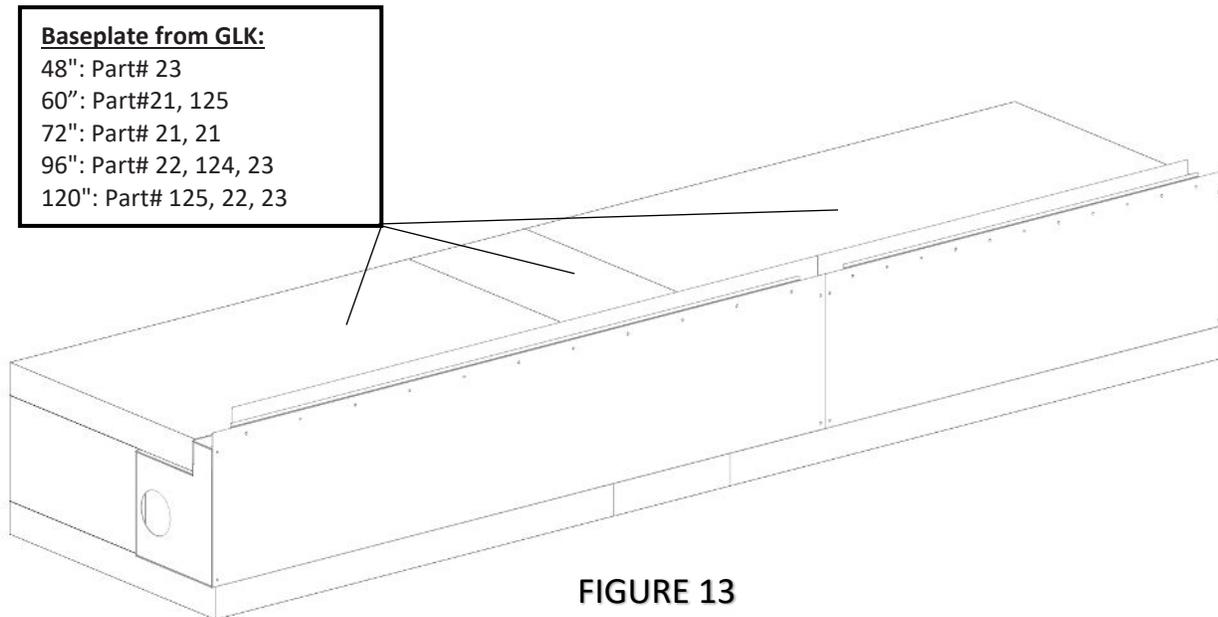

FIGURE 13
- 4) Place the next layer of baseplates from the Glass Front Kit, GLK. These baseplates should rest on the previous layer of back and sidewalls, with the front of the baseplates resting atop and flush with the Air Collector Box shelf. **(Figure 13)**.